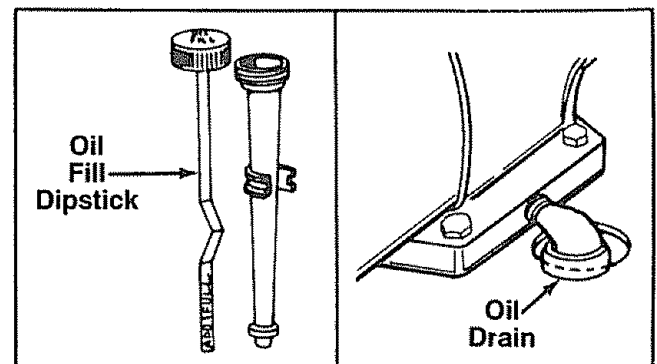

FIGURE 12.
- Fill engine with oil as follows. Remove oil fill dipstick. See figure 12. With chipper-shredder level, use a funnel to fill engine with oil to FULL mark on dipstick. Capacity is approximately 1-1/4 pints. Be careful not to overfill. Tilt chipper-shredder toward the left (from behind the hopper), then re-level. Check oil level. Refill to FULL mark on dipstick if necessary. Replace dipstick and tighten.
- Remove oil drain plug. Refer to figure 12. Catch oil in a suitable container.